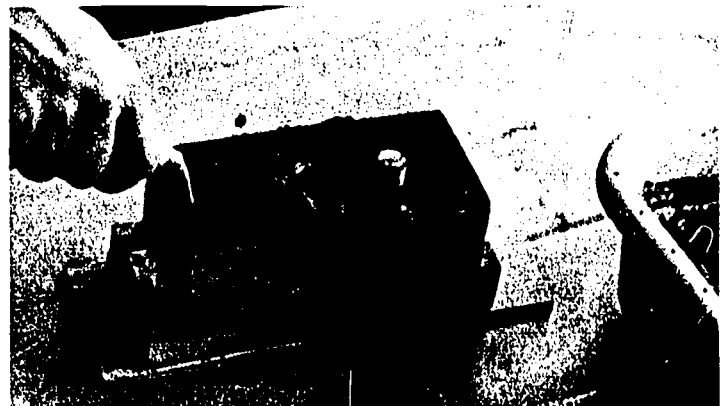

Fig. 55A-2. Filling Permanent Mold
8. Fill the brick mold with concrete. See Fig. 55A-2.